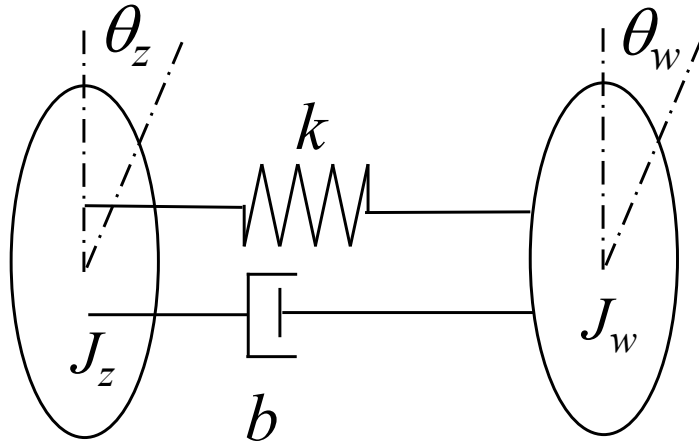

Figure 2: Two degree of freedom system
2. Systems that require multiple independent coordinates to describe their motion are said to have multiple degrees of freedom. For simple mechanical systems such as the spring-mass systems we have studied, the number of degrees of freedom equals the number of masses in the system times the number of possible types of motion of each mass. Consider two wheels coupled by a spring and damper, as shown in figure 2. The differential equations describing this system are given by: